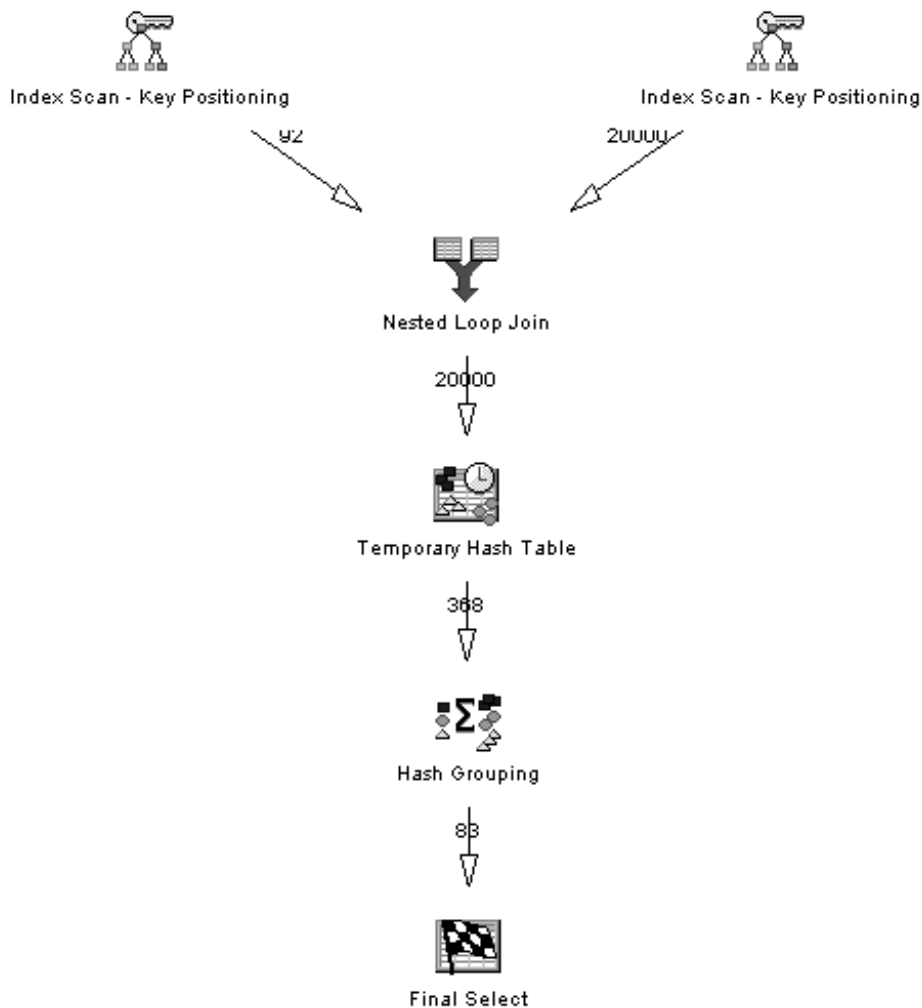

Figure 10. Hash Group By with NLJ
- ___ 4. Verify that the graph you received resembles the example shown in Figure 10.